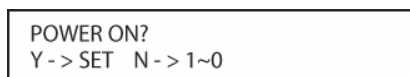

Figure 134
9. If the device being programmed does turn off after following the instructions in Step 7, you will need to verify the code set by pressing the **Alphanumeric Keys [triangle 43]** in sequence, as instructed in **Figure 134**. Point the remote at the device being programmed, and press the **“1” Button [triangle 43]** to see whether the device turns back on.
10. After pressing and releasing the **“1” Button [triangle 43]**, check to see whether the device has turned back on. If it has, skip to Step 12. If it does not turn off, press the **“2” Button [triangle 43]**, or the next button in the numeric sequence if you are repeating the procedure, as instructed by the LCD screen in **Figure 134**.
12. When pressing one of the numeric keys in Step 10 or 11 causes the device being programmed to turn back on, follow the instructions shown in **Figure 134** and press the **Set Button [triangle 15]** within five seconds of the device turning on. After you press the **Set Button [triangle 15]**, the top line of the LCD display will read SAVING... and then the word SAVED will flash four times in the center of the bottom line.